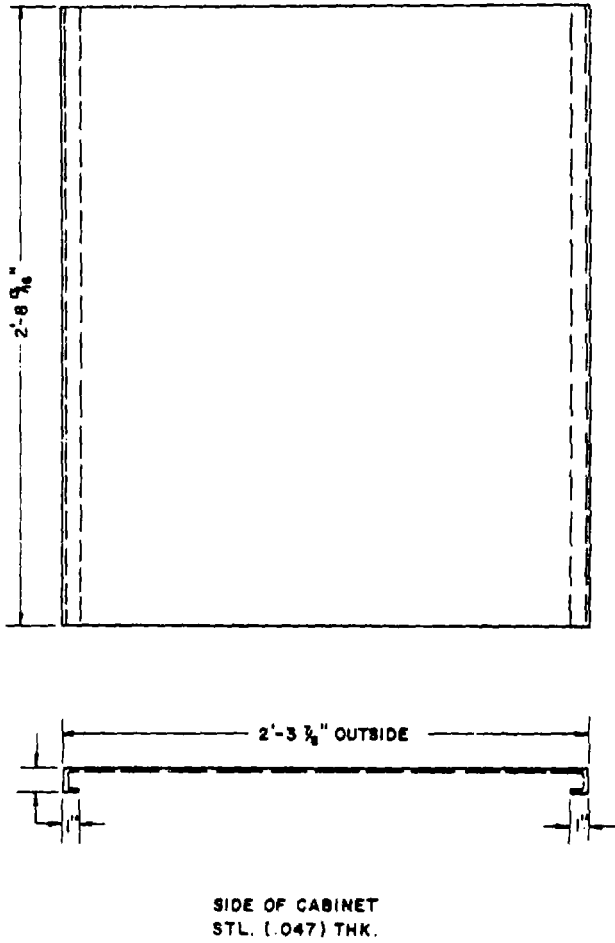

Figure 75. Typical cabinet side, type I.
*a Repair.* Fabrication and assembly of components which may be required for repair and replacement are shown in figures 75 through 81. These components will be fabricated in accordance with these figures when required.